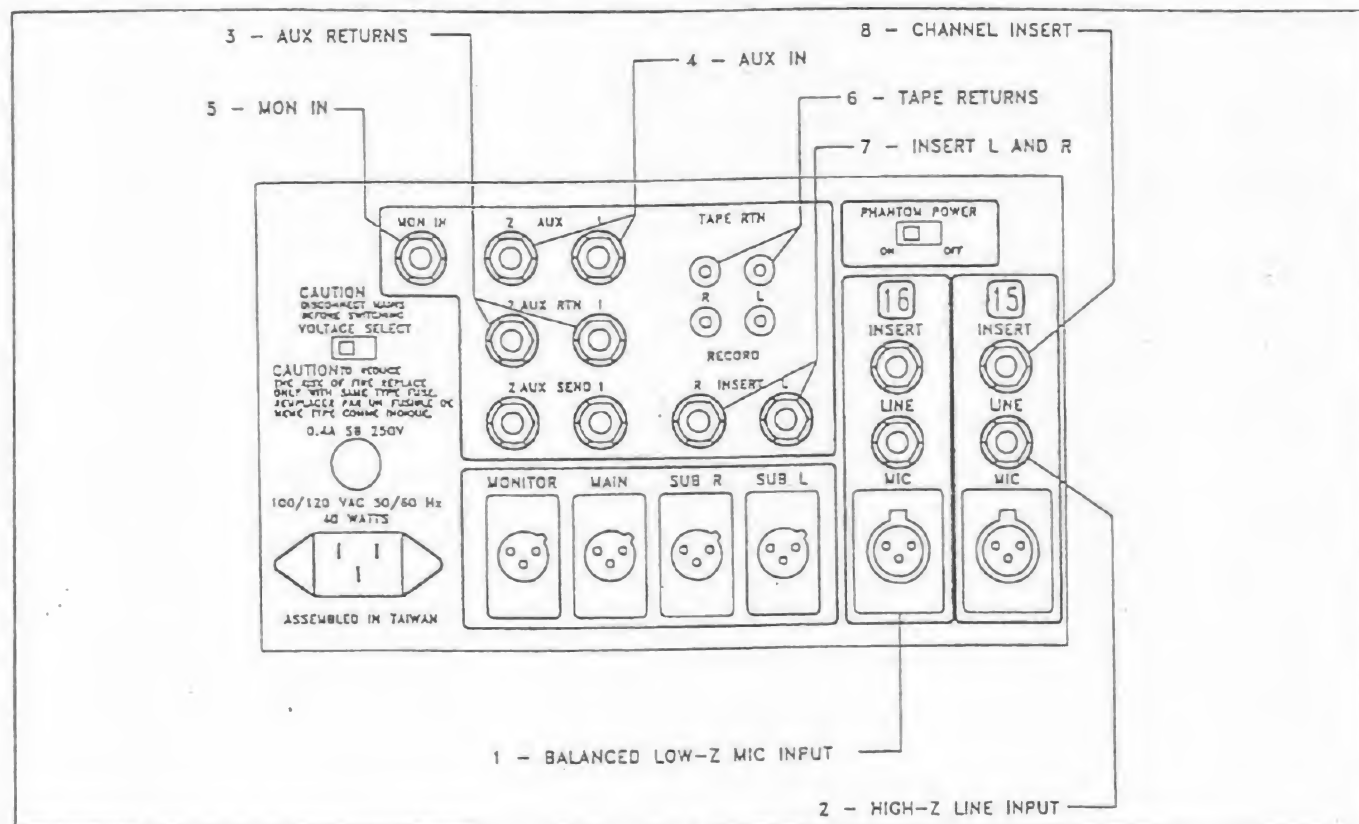

Figure 6: Rear Panel Input Connectors
3.3 Rear Panel Input Connectors (Refer to Figure 6.)